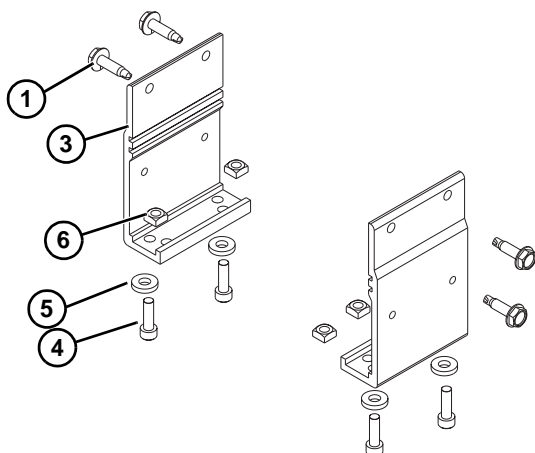

Figure 10
Locate brackets. Exploded views shown in (Figure 10).
1. Remove screws (Figure 10, item 1) or washers (Item 2), nuts (Item 3) a from brackets.
2. Locate and retain self-drilling screws (Figure 10, item 4).